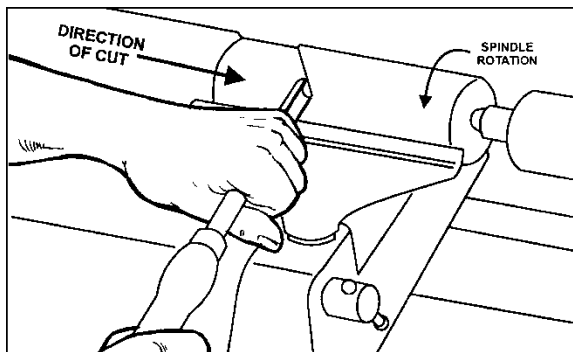

Figure 22
- Beginning about 2" from the tailstock end of the workpiece, roll the flute (hollowed-out portion) of the tool in the direction of the cut. See Figure 22. Make long sweeping cuts in a continuous motion to rough the piece down to a cylinder.